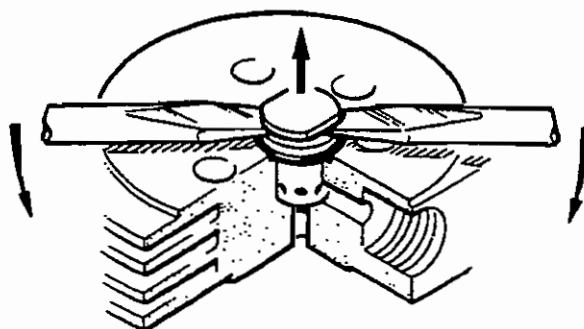
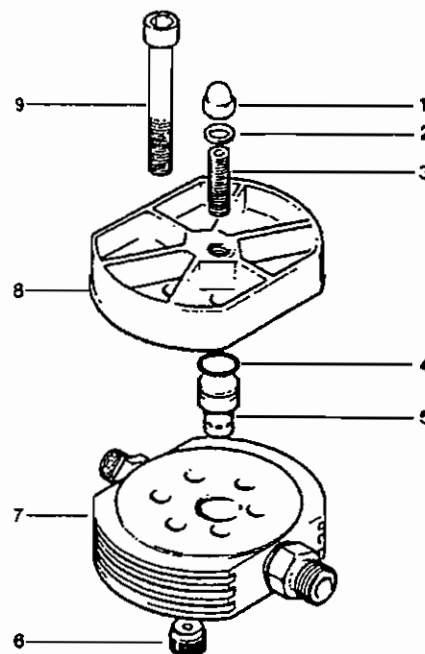

Fig. 11.14 Removal of the 3rd stage discharge valve
Fig. 11.15 Valve head, 3rd stage
Reference fig. 11.15 to note that the discharge valve (5) is inserted into the valve head (7). It is sealed by an o-ring (4) and fixed to the valve head with a set screw (3). To remove the 3rd stage discharge valve, proceed as follows.
- Remove the dome nut (1) and the gasket (2). Unscrew the socket set screw (3) three or four turns. If the gasket is damaged, replace it with a new gasket.
- Remove the socket set cap screws (9) that secure the valve head (7), then remove the valve head cover (8).
- Place two screwdrivers into the groove of the discharge valve body (see fig. 11.14) and lift out the discharge valve (5) together with the o-ring (4). If necessary, loosen the valve first, using a 13 mm open-end wrench on the flat surfaces.
To remove the inlet valve (6), it is necessary to dismantle the valve head (7). Reference fig. 11.15 and proceed as follows:
- Remove the tube connections to the valve head (7).
- Unscrew and remove the socket head cap screws (9).
- Remove the valve head cover (8).
To reassemble the 3rd stage valves and valve head, reference fig. 11.15 and proceed as follows.